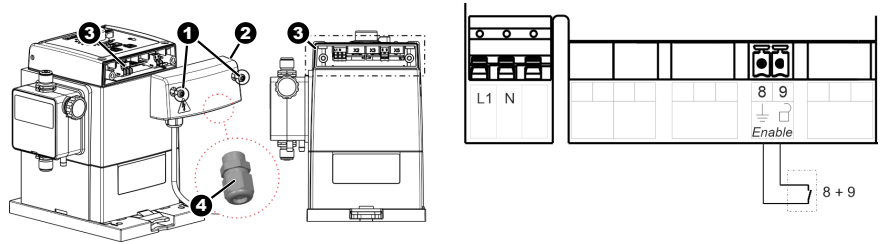

Fig. 8: 'EcoPro' electrical installation
1. ➤ Remove both housing screws (*Fig. 8, 1*).